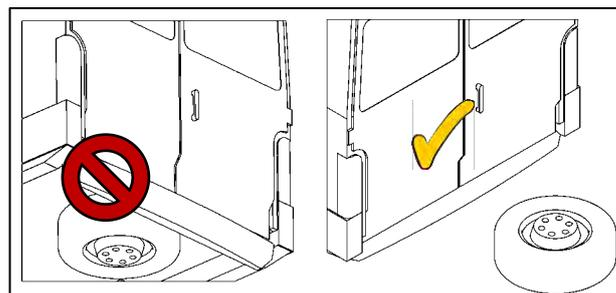

Figure 7
- If the vehicle has a spare tire between the rear axle and the rear bumper, remove the tire (see Fig. 7).